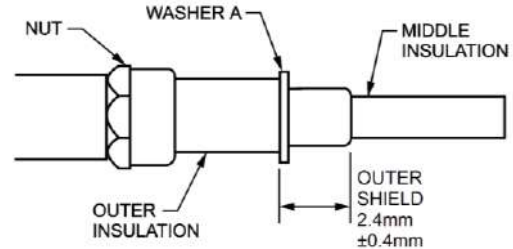

Figure 12-66 Attaching Triaxial Connector to Cable
- e. Cut outer shield to dimension shown in Figure 12-66.